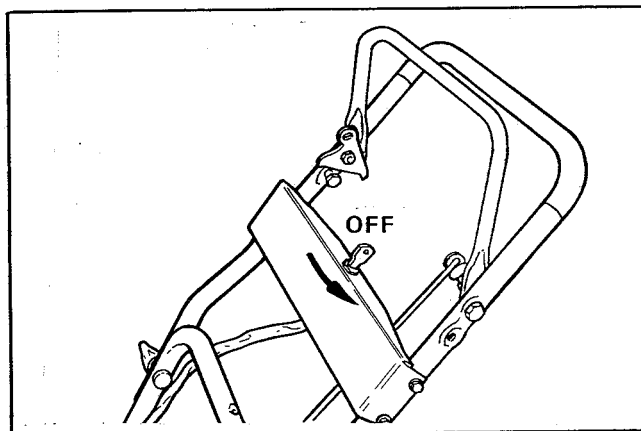

Figure 7. Turn Key to OFF
- On Electric Start Mowers, turn key to OFF, (figure 7). Always remove key to prevent unauthorized starting.